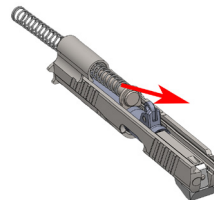

Figure 32
- Remove the recoil spring guide and recoil spring from the slide by pulling it rearward out of the dust cover – Figure 32.